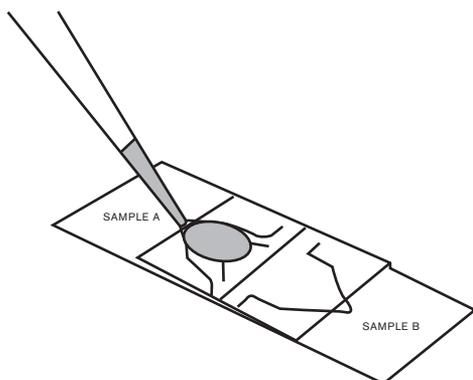

Figure 1.
1. Using a positive displacement pipette, place approximately 2-5 microliters of the sample to be evaluated (volume depends on which slide is being used) into the clear loading zones. (See Fig 1).